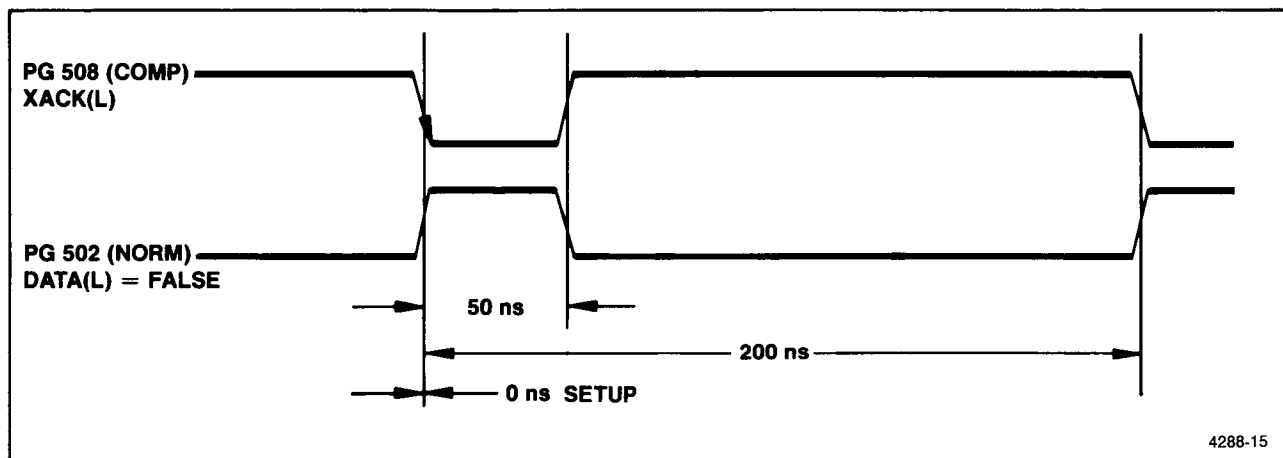

Figure 5-8. DATA setup time (DATA FALSE).
16. Change the PG 502 Complement button to the NORM position (out) and adjust the oscilloscope to bring the pulses on the screen. Verify that the pulse out of the PG 502 is 0 ns before and 50 ns after the falling edge of the XACK(L) pulse (PG 508). Refer to Figure 5-8.
22. Refer to Figure 5-8.